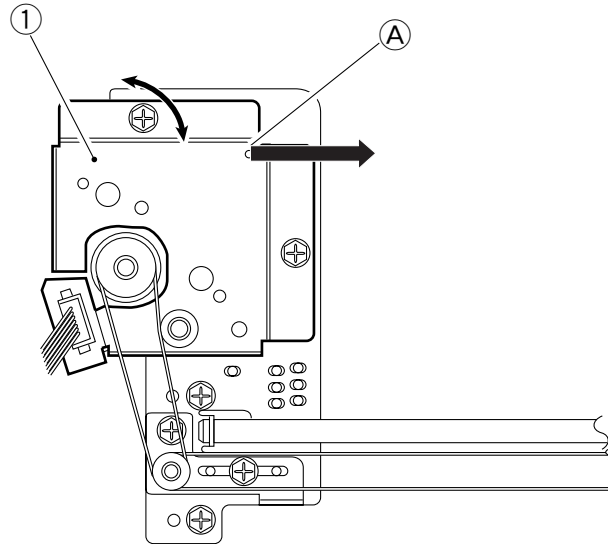

Figure 3-527
Move the lens motor support ① and fit it in place so that the reading of the spring gauge is $1000 \pm 50\text{g}$ when motor support ① is pulled with a spring gauge in the direction of the arrow at the point ① indicated in Figure 3-527.